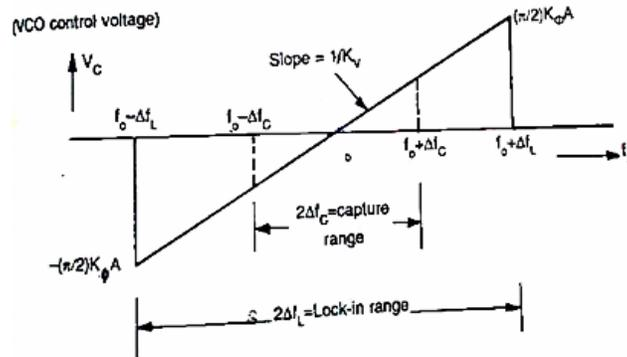

Figure 28: PLL lock in range and capture range
- The capture range is symmetrically located with respect to VCO free running frequency f_0 as is shown in Fig. 28.
- The circuit of Fig. 28 can also be used for frequency division.